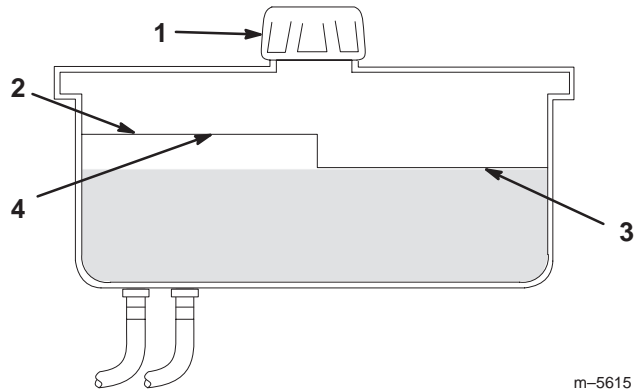

Figure 44
2. Clean area around filler neck of hydraulic tank (Fig. 44).
3. Remove cap from filler neck. Look inside to check if there is fluid in the reservoir. (Fig. 44).
Note: The fluid level should be to the top of the **hot** level of the baffle, when the fluid is warm (Fig. 44).